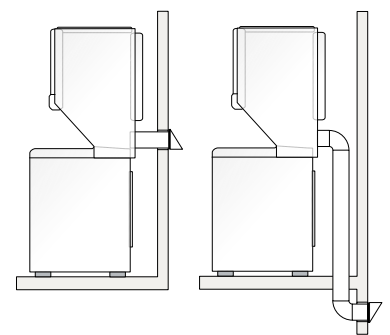

Figure 7
B. For mobile home installation, the dryer **must** be exhausted to the outside using metal ducting that will not support combustion. The termination must be securely fastened to the mobile home structure. Follow all other exhaust requirements referred to on Page 3. Under no conditions may the dryer exhaust duct terminate beneath the mobile home. See Figure 7.